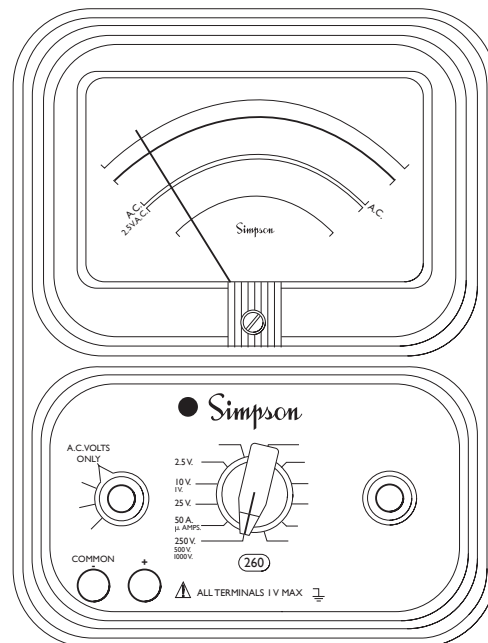

Figure 4-6. Jacks and Switch Positions for Measuring AC Voltages, 0-2.5 through 0-250V Ranges
- Set the function switch at AC Volts Only position (Figure 4-6).